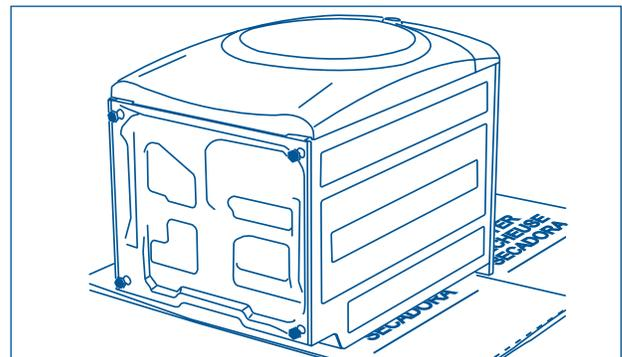

Figure 2-41.
2. Protect floor with cardboard or other covering and carefully tip dryer onto its back. (See Figure 2-41)